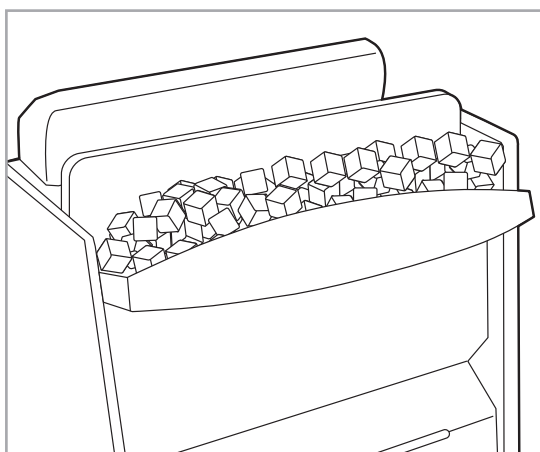

Figure 3.8
6) When stacking the stones, ensure that you do not place **small heater stones among the resistors or on top of the ventilation grill located at the top edge of the heater** (see Figure 3.8).